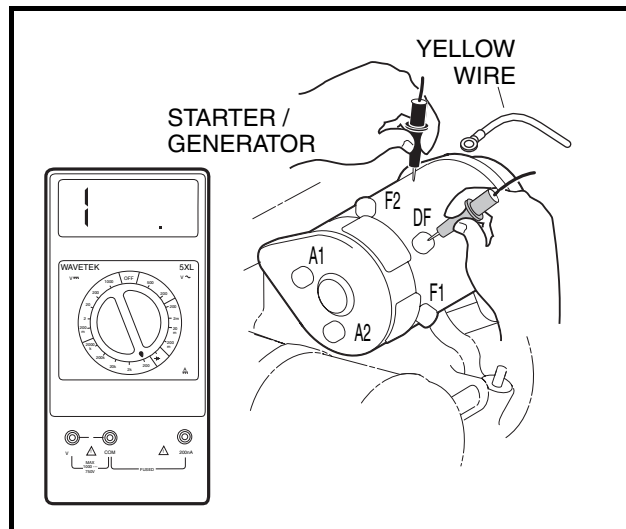

Figure 11-15 Check Starter Terminal Continuity
4. Disconnect the wires from all the terminals on the starter/generator. Then place the black (–) probe of a multimeter, set to ohms, on the starter/generator housing (scratch through the finish to ensure a good ground). While holding the black probe against the housing, place the red (+) probe (one at a time) on the A1, A2, F1, F2 and DF terminals respectively (**Figure 11-15, Page 11-18**). The readings should be no continuity. If the readings are incorrect, the starter/generator will need to be removed from the vehicle and disassembled by a qualified technician. **See Starter/Generator Removal, Section 13, Page 13-1.**